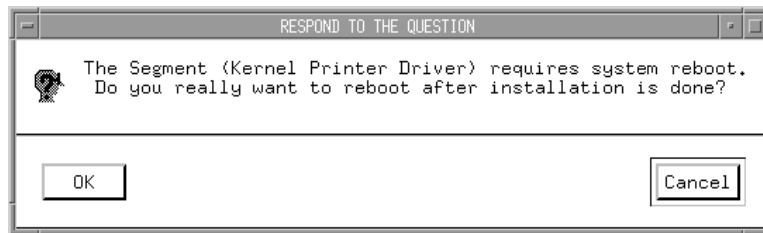

Figure 6. `RESPOND TO THE QUESTION` Window
STEP 11: Reboot the system. Once the installation is complete, the `RESPOND TO THE QUESTION` window appears (Figure 6). Click on the `OK` button to reboot the system.